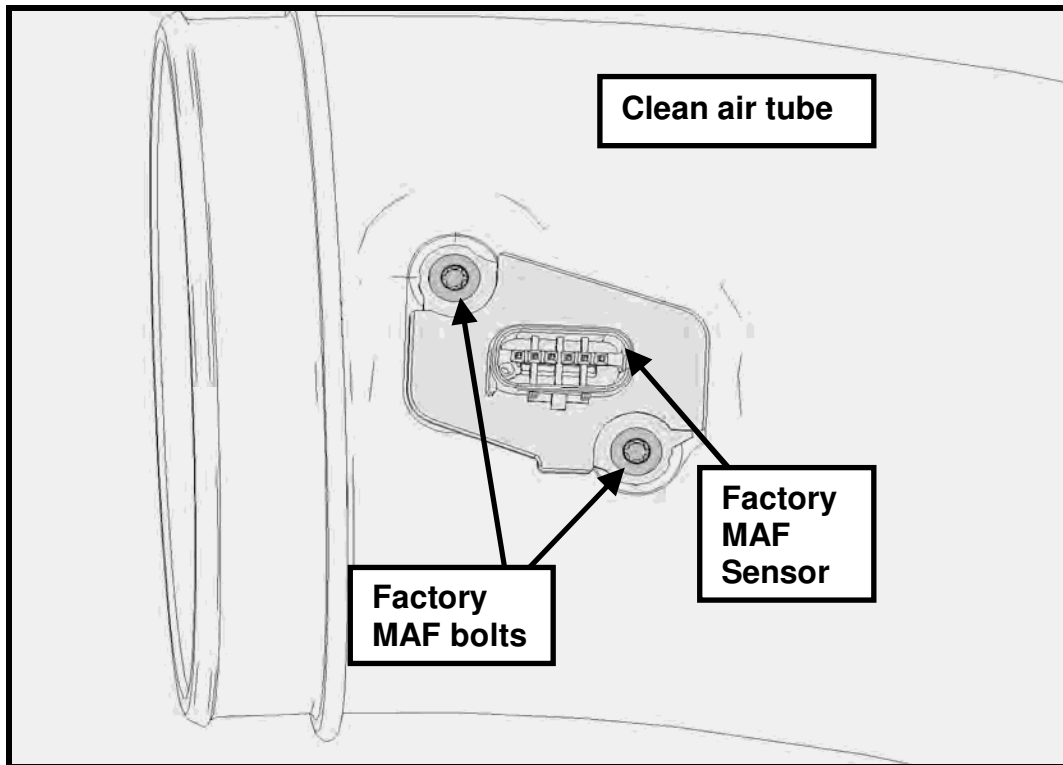

Fig. 4
STEP 1: Install the MAF sensor and bolts from the stock airbox into the new clean air tube (R07060101). Torque the bolts to 4 Nm (35 lb in) (See Fig. 4).